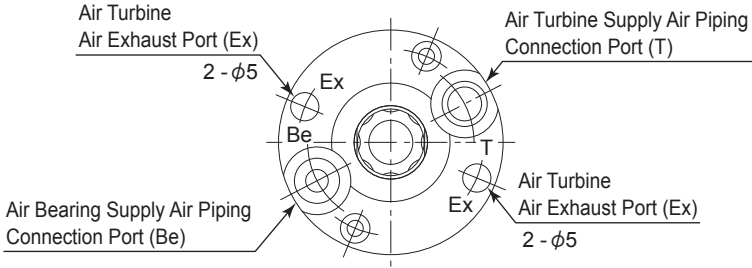

Fig. 5 Marking of the Piping Connection Section
- Ensure the air piping connections are correctly connected as instructed in this manual (Refer to Fig. 5).
- Be sure to install a proper piping system (refer to Fig. 5, 6 and Fig. 7) for a clean and dry air supply to the Air Turbine Spindle.
Securely connect the air supply piping, referring to " Fig. 5 Marking of the Piping Connection Section " section.